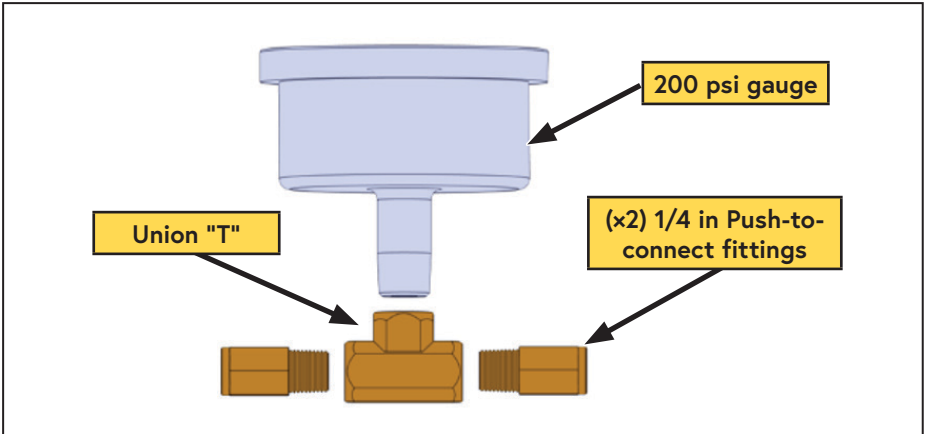
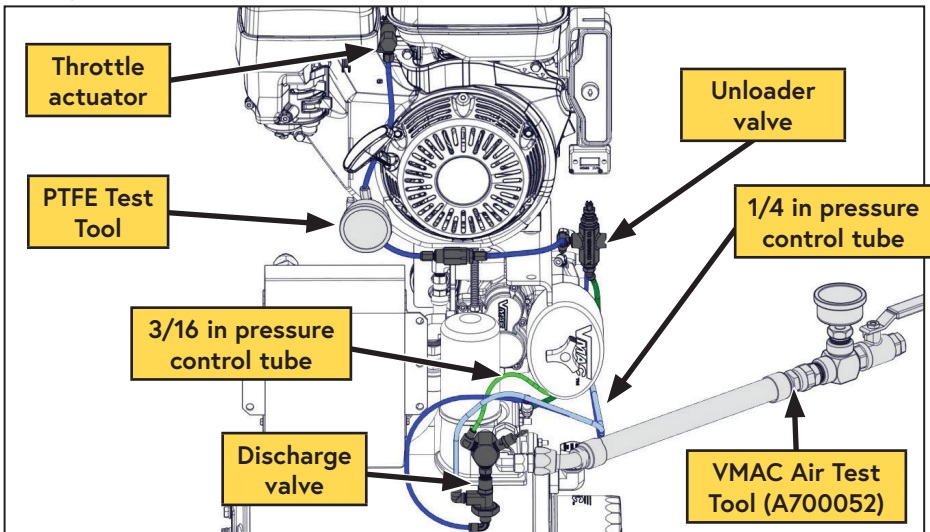

Figure 41 — PTFE Test Tool
Figure 53 — Test equipment installed
To properly diagnose the G30, a VMAC Air Test Tool (P/N: A700052), or equivalent, is required. For testing and diagnosis, install the 30 cfm (1/8 in) orifice (Figure 41).
A PTFE test tool can be constructed and used to test the unloader valve and throttle actuator function (Figure 41).
- Install the VMAC Air Test Tool (P/N: A700052) on the system outlet (Figure 53).
- Install the PTFE test tool (Figure 41 on page 69 on the 1/4 in throttle tube (Figure 53).